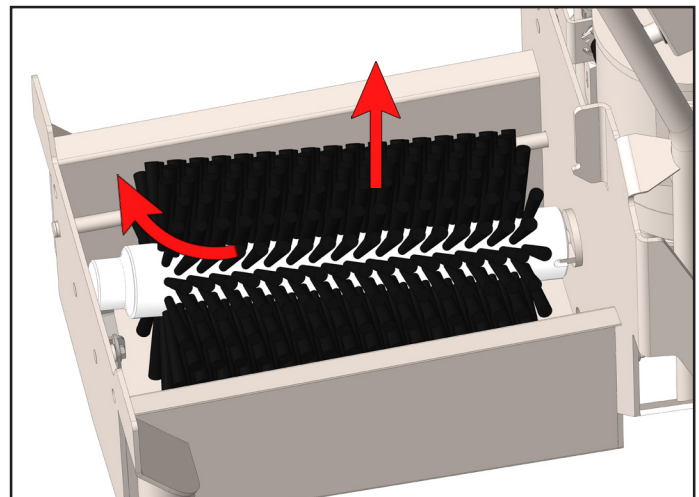

Fig. 8.3: Removing sole brush
5. Lift the sole brush out of the tub by grabbing the open end and lifting up to clear the opposing drive shaft anchor [Figure 8.3].